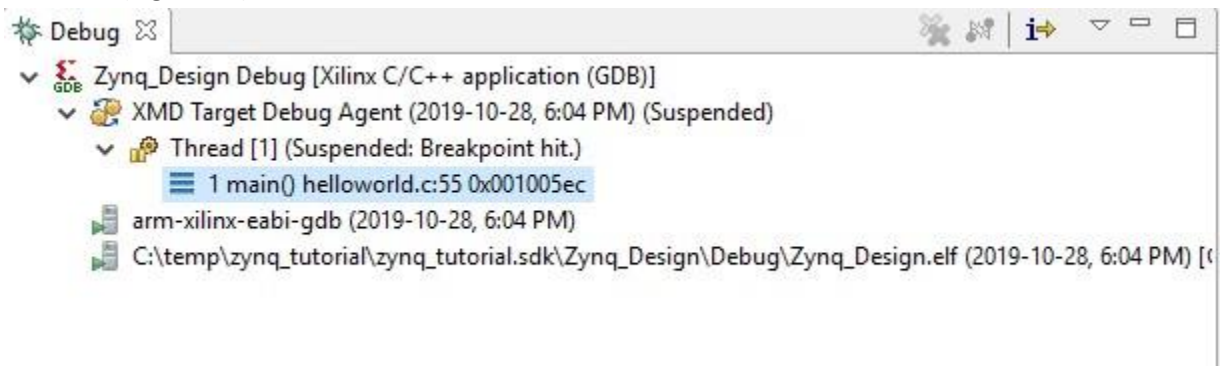

Figure 35: Terminal connection verification.
11. In the **Debug** tab, expand the tree, and select the processor core on which the program is to be run (Figure 35).